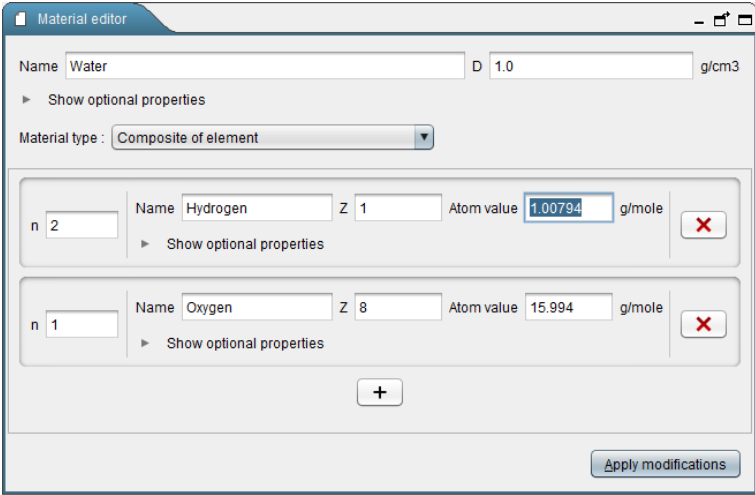

Figure 36: Material editor for a composition of element (here water)
Figure 36 shows the material editor for a composition of elements. These elements are similar to atom shown previously but can have additional meta-data attached to them using the “*Show optional properties*” button. The number of each element is chosen on the left with the “*n*” field. It is easy to add and remove elements just by clicking on the (+) button and (X) respectively.